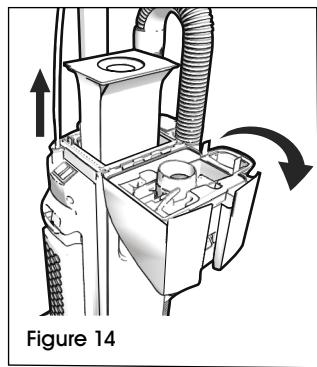

Figure 14
- Pull the dust bag straight up to remove. Insert new bag and close the cover, making sure the latch locks into the handle. (See Figure 14)